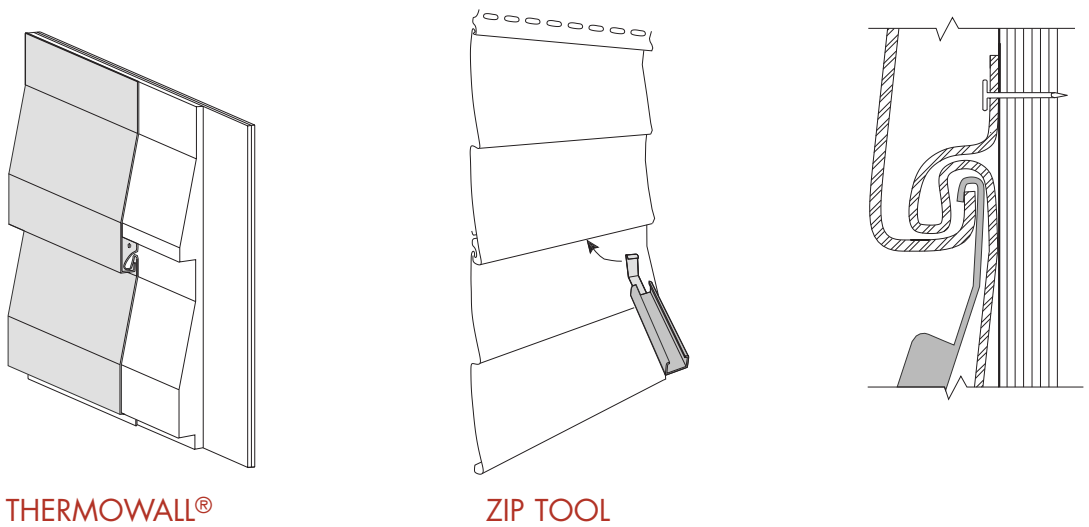

FIGURE 2, 3
■ Insulated siding products: Progressive Foam Products manufactures an insulated contoured underlayment, ThermoWall®, that is designed to go over existing siding products, provide a rigid base for new vinyl siding and add an R-value of up to 4.2 to the existing wall. The underlayment panels (Fig. 2), 20 inches high, 48 inches long, and minimum 1/2 inch thick, are profile-specific and have been developed for over